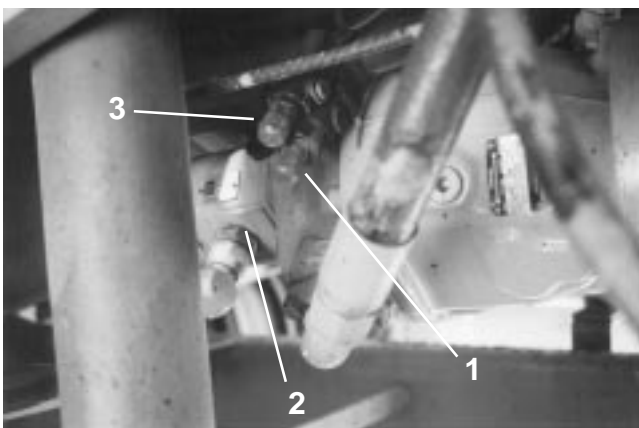

Figure 31 Pumps
3) To make an adjustment, use a 17mm wrench to remove protective cap from set screw. The standby pressure adjustment is the higher adjustment of the two adjustments at the rear of the pump (Fig 31, Ref 3). The 1/4" load sense hydraulic line is plumbed into the "X" port in the side of the set screw housing. If pressure is low, loosen jam nut and turn set screw clockwise using a 5mm allen wrench. If pressure is high, loosen jam nut and turn set screw counterclockwise. Replace protective cover once correct pressure is set.